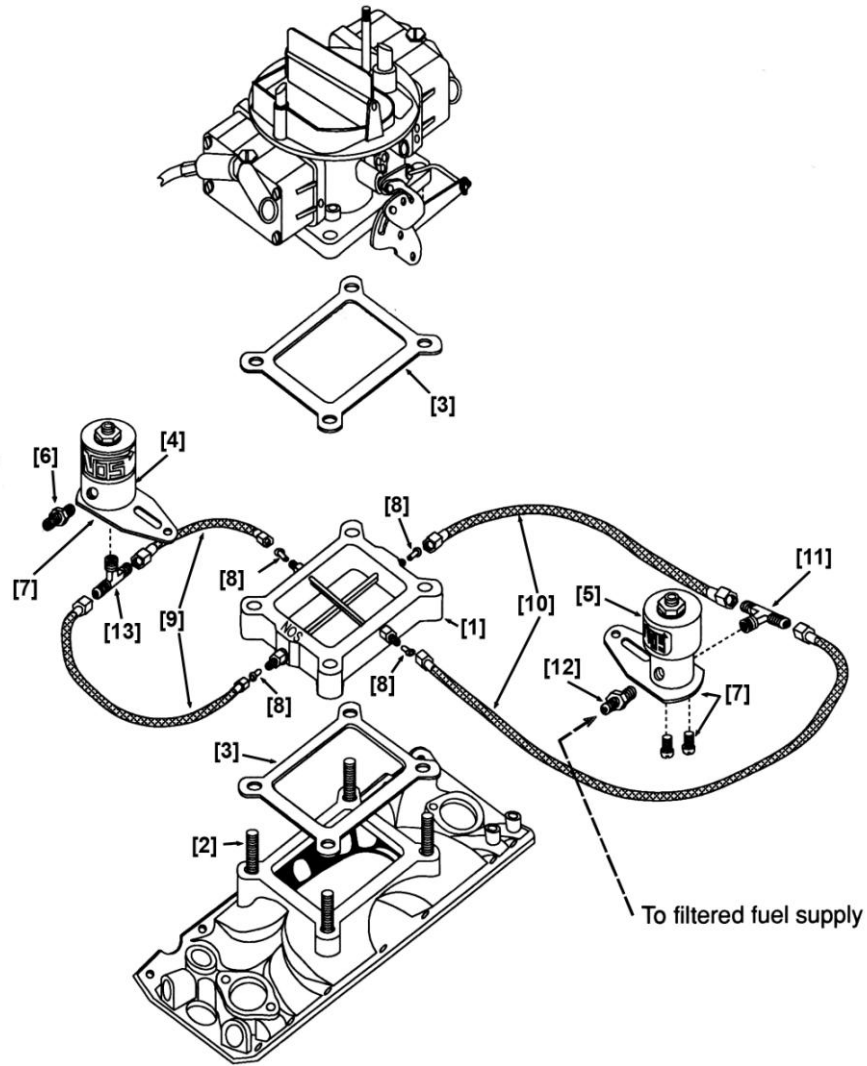

Figure 2 Cross Hair Plate System Kits 02153NOS & 02154NOS—Assembly Drawing
6. Install the extended carburetor studs (2).
7. Install the injector plate (1) and gaskets (3) on the intake manifold with "THIS SIDE UP" facing up and forward. See Figure 2 for the illustration of the part installation. This places the fuel inlets on the plate towards the front and driver's side of the vehicle for the 4500 flange plates and the fuel ports to the driver's side and rear for the 4150 flange plates.
Use the following procedure to install the nitrous solenoid (4) and fuel solenoid (5). See Figure 2 for the illustration of the part installation.